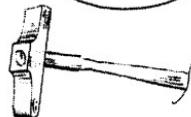

FIG. 6
6. Place the work on the raising stake, as shown in Figs. 6 and 7, and begin hammering, going round and round, crowding a little metal upward toward the edge by each blow of the hammer. It is important to hold the metal against the nose of the stake in such a way that the hammer blow lands just above the point of contact. On the last round, along the edge, use a wood mallet.